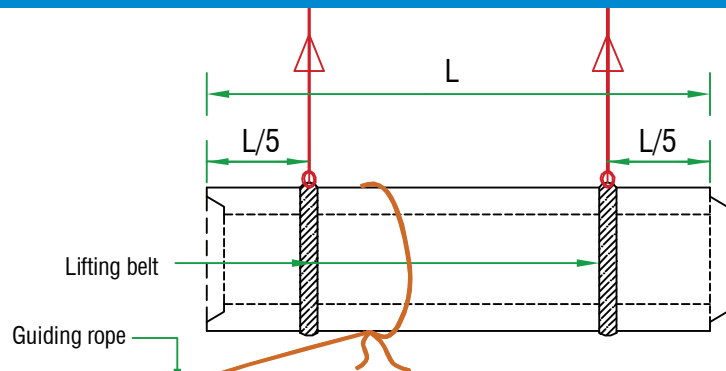

Fig.04 - Correct method for lifting
- 06). Do not standing any workers & officers under the pipe during the handling. always use the guiding rope for handling the product in to the required location. (Fig. 04)